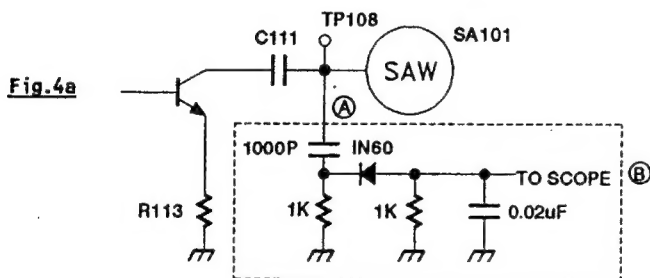

Fig.4b
2. Connect Sync. Oscilloscope through the DETECTOR (B).
3. Increase the output level of Sweep Generator in 50 dBuV, to obtain the waveform as in Fig.4b.
4. Adjust T101 for 31.9 MHz as shown in Fig.4b.
5. Adjust T102 for 40.4 MHz as shown in Fig.4b.